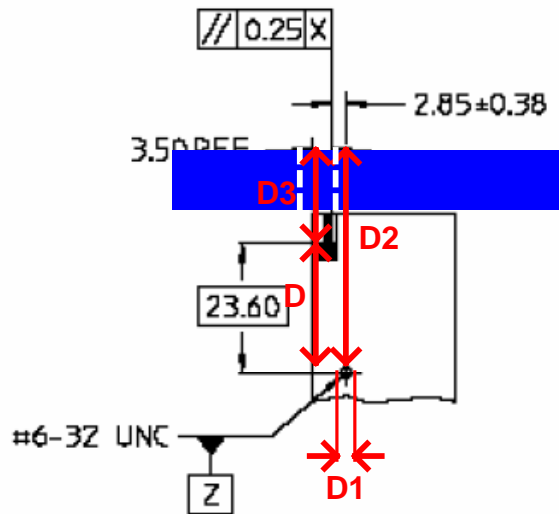

Figure 10
2. Place the drive against a flat surface, with the back surface of the drive (i.e. the “end of the device factor”) flush against the face of the flat surface, see Figure 10.
3. Using the outside measurement jaws of the calipers measure from the face of the flat surface to the edge of the mounting hole as seen in Figure 10. Record this measurement as  $D2$ .
4. Using the depth measurement of the caliper measure from the face of the flat surface, through a hole in the flat surface to the back of the tongue of the connector plug, see Figure 10. Record this value as  $D3$ .